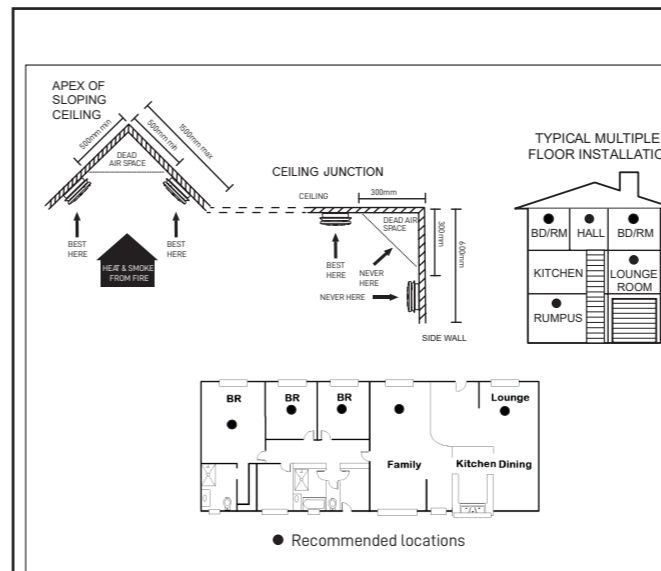

Fig. 5
- Understand your requirements and decide how and where do you need the smoke alarm [See location section Fig. 5 for guidance]
- Mount base in the required position [See recommended location, Fig. 5].